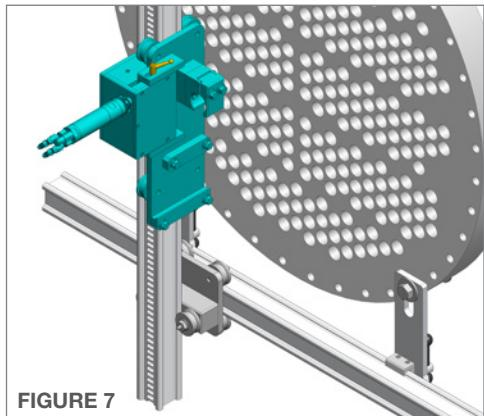

FIGURE 7
7. Loosen the **Quick Adjust Handle** and pull the gearbox away from the carriage plate. This will allow the **Vertical Drive Carriage** to slide onto the rail without pneumatic power to rotate the drive. Center the carriage on the vertical rail and push the gearbox back toward the carriage plate. This will engage the gear into the rail slots. Verify the gear is engaging the slots correctly and tighten the quick adjust handle. (**Figure 7**)